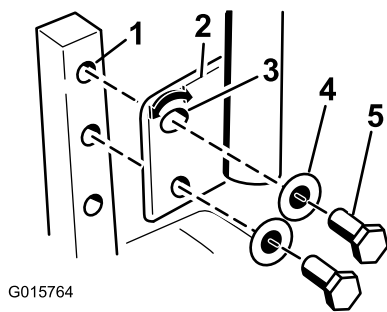

Figure 26
1. Remove the 2 bolts and 2 washers holding the control lever to the control arm shaft (Figure 26).
2. Move the control lever to the next set of holes. Secure the lever with the 2 bolts and 2 washers (Figure 26).